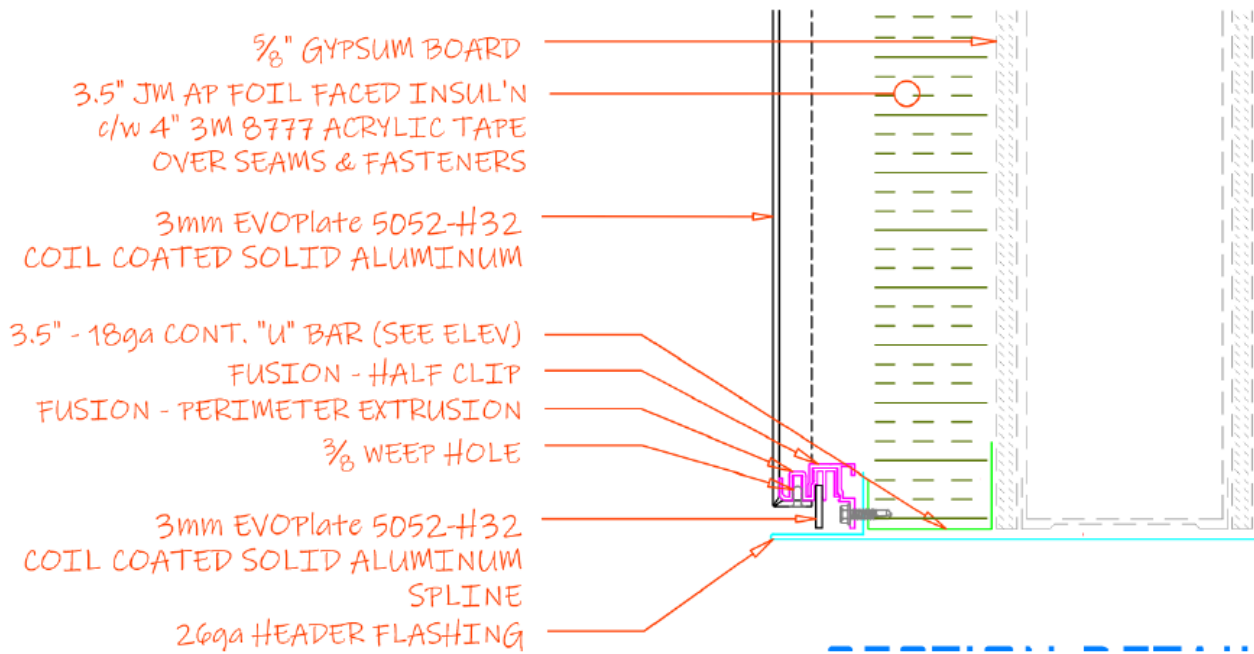

Figure 1. Opening header protection detail
- 8. OPENING HEADER, SILL, JAMB PROTECTION:** 18 GA, 3-1/2 in. deep continuous "U" bar sheet steel covering the edge of the foam plastic insulation. Min. 26 GA sheet steel flashing drip edge attached to "U" bar via rivets 8 in. oc as shown in Figures 1, 2, and 3.